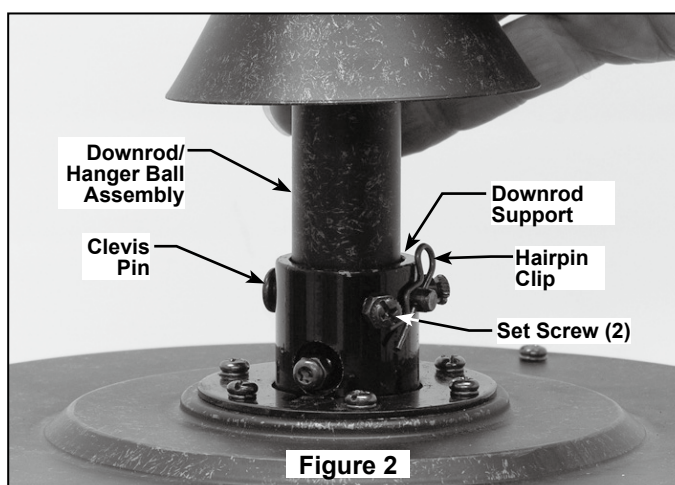
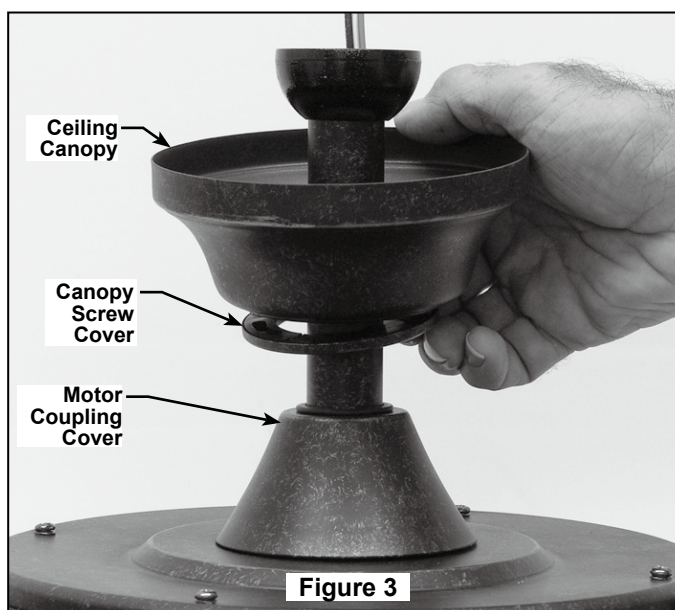

Figure 2
Figure 3
4. Loosen the two setscrews in the Downrod Support. Install Downrod into Coupler. Align the Clevis Pin holes in the Downrod with the holes in the Downrod Support. (Figure 2)
5. Install the Clevis Pin, Hairpin Clip and tighten Set Screws. (Figure 2) The Clevis Pin and Hairpin Clip must be properly installed to prevent the Set Screws from working loose.
6. Route wires through Motor Coupling Cover, Canopy Screw Cover and Canopy. Position Canopy on fan shown with open side facing up. (Figure 3)
7. Reinstall the Hanger Ball (Figure 3) on the Down rod as follows. Route the three 80" wires through the Hanger Ball. Position the Pin through the two holes in the Down rod and align the Hanger Ball so the Pin is captured in the groove in the top of the Hanger Ball. Pull the Hanger Ball up tight against the pin. **Securely tighten the setscrew in the Hanger Ball.** A loose setscrew could create fan wobble.
1. Securely attach the hanger bracket to the outlet box using the outlet box screws and washers supplied with the outlet box (Figure 2).
NOTE: Outlet box screws pass through slotted holes of the hanger bracket (Figure 2).
3. Carefully lift the fan and seat the downrod/hanger ball assembly on the hanger bracket that was just attached to the outlet box (Figure 3). Be sure the groove in the ball is lined up with tab on the hanger bracket (Figure 2).
4. Attach Blade Holders to the Motor Hub using the Screws w/Lock washers as shown in Figure 2.
5. Make sure the screws with lock washers securing the Blade Holders to the Motor Hub are tight and that the Blade Holders are properly seated. (Figure 2)
2. Assemble the Adapter assembly on the Housing Support bracket and tighten three screws. (Figure 2)
3. Securely attach the 9-pin switch cup connector to wiring harness socket within Switch Cup Assembly. (Figure 3)